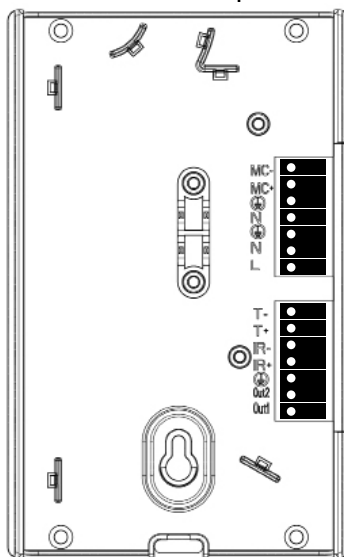

Fig. 1
## Connections, see fig. 1
1. Connect the IR input's ground to the receiver units connection (see fig. 1) "IR-"
2. Connect the IR input's signal to the receiver units connection (see fig. 1) "IR+"
1. Connect the 12-volt trigger input's ground to the receiver units connection (see fig. 1) "TR-"
2. Connect the 12-volt trigger input's signal to the receiver units connection (see fig. 1) "TR+"
## Anslutningar, se fig. 1
1. Koppla IR-anslutningens jord till kontrollboxen, märkning "IR-", se fig. 1
2. Koppla IR-anslutningens signal till kontrollboxen, märkning "IR+", se fig. 1
1. Koppla trigger utgångens jord till kontrollboxen, märkning "TR-", se fig. 1
2. Koppla trigger utgångens signal till kontrollboxen, märkning "TR+", se fig. 1